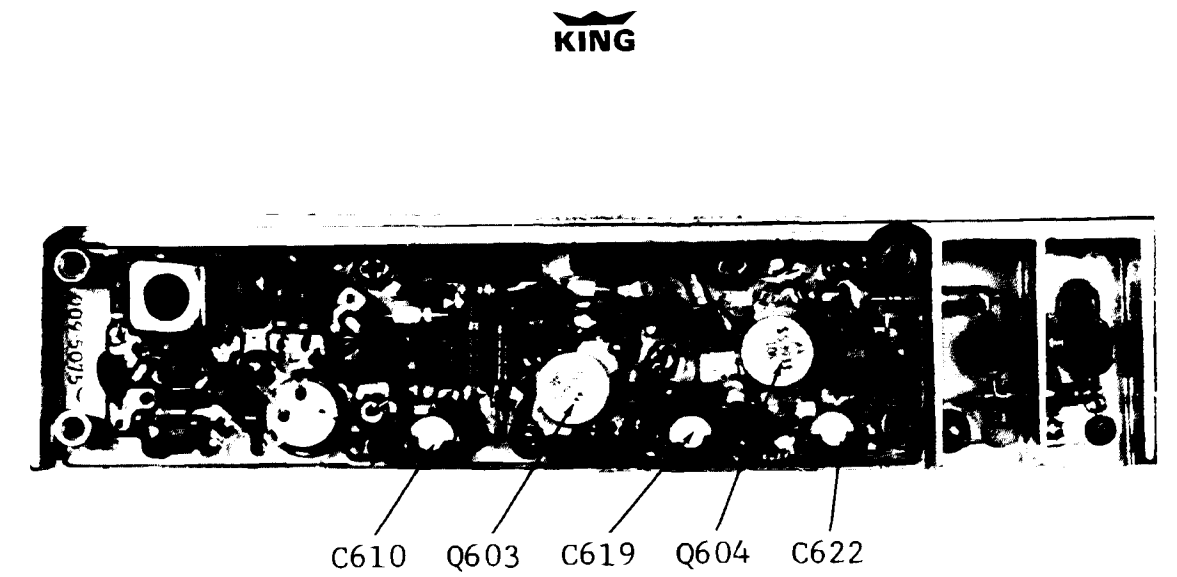

FIGURE 5-7A
- 5.2.6.1 TRANSMITTER POWER AMPLIFIER ALIGNMENT (Figure 5-7A)